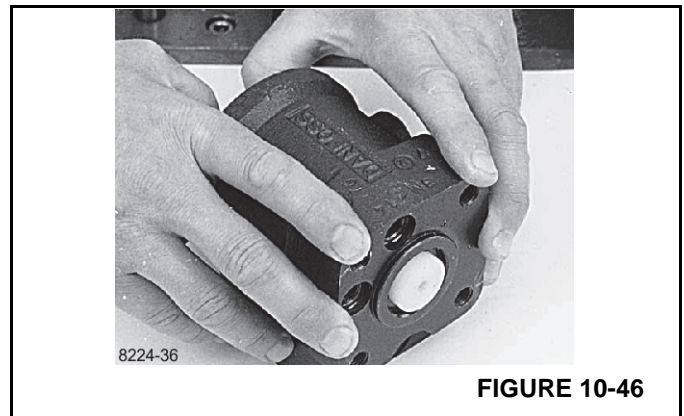

FIGURE 10-46
- 15. The spool assembly will push out the assembly tool guide. The O-ring and kin-ring/roto Glyd are now in position (Figure 10-46).